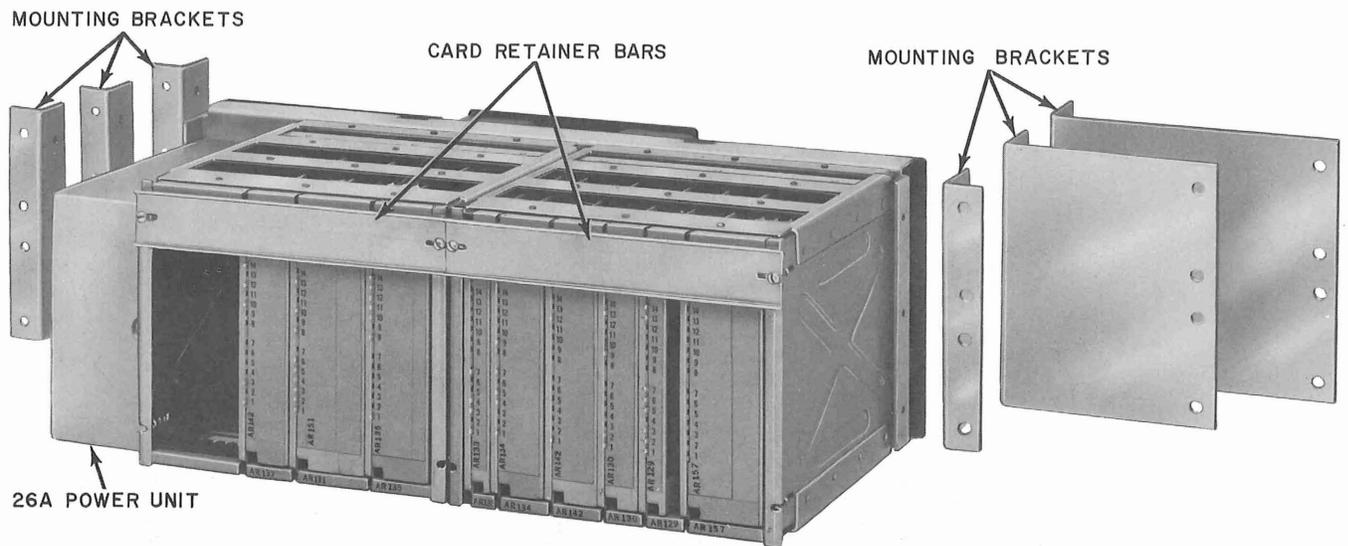

Fig. 6—Data Set 303-Type—Front View
3.07 The chassis of DS 303-type with its mounting bracket attached (Fig. 6) is fastened to the mounting strips (located on the side of the cabinet)
Fig. 6 for illustration of circuit pack numbers and locations.